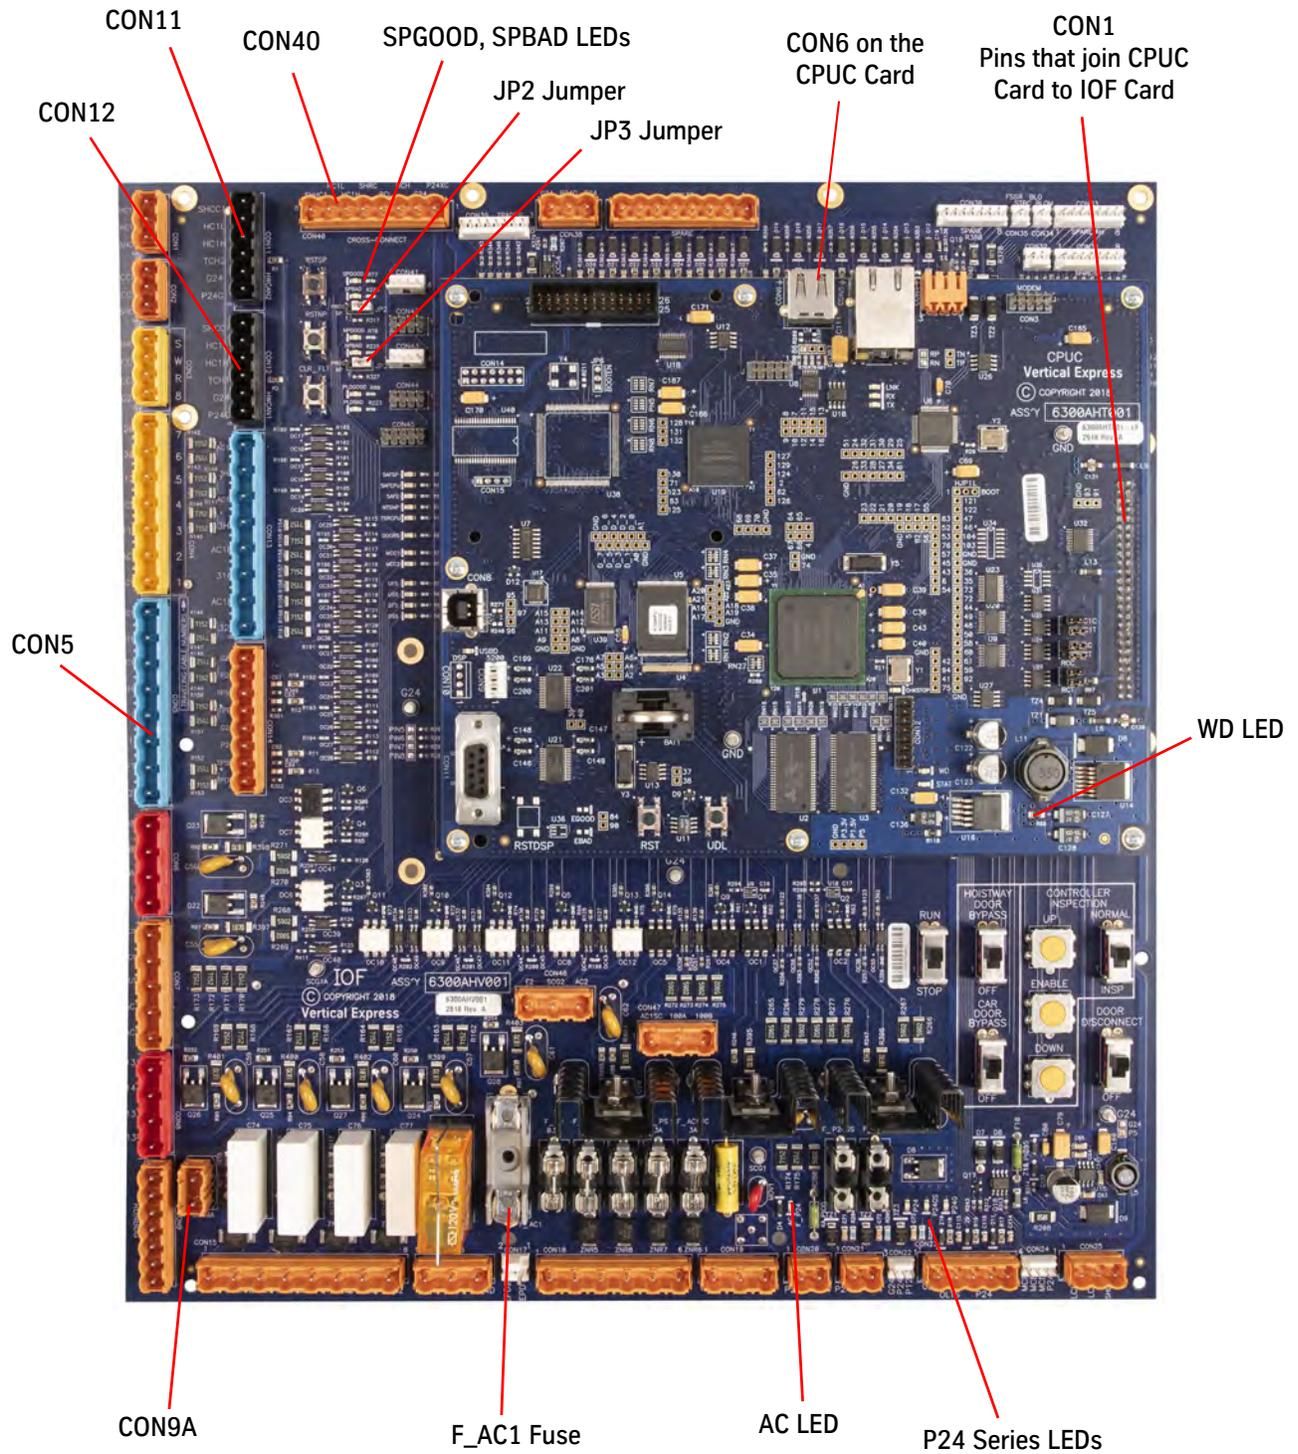

Figure 5 - IOF Card with CPUC Card
6. Disconnect CON40. This process removes the P24XC feed from other controllers in the group. See Figure 5 on page 5-28 for the remaining steps in this section.